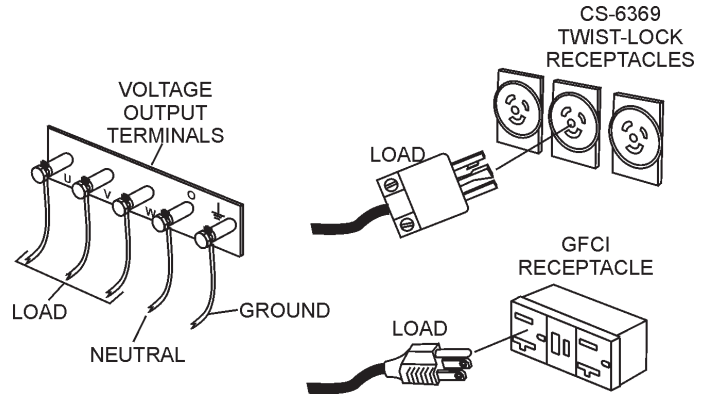

Figure 41. Load Connections
2. Connect the load to the **UVWO** terminals or **auxiliary receptacles** as shown in Figure 41. These load connection points can be found on the output terminal panel. To gain access to the UVWO terminals or other power receptacles, unlock the access cover and lift the door.